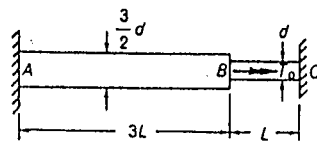

Fig. P6.96
6.96. Shafts AB and BC are made of different materials and unstressed when welded together at B as shown in Fig. P6.96. The twisting couples at A and C are equal in magnitude when the couple T_0 is applied at B . Determine the relation between the elastic moduli of the two materials.